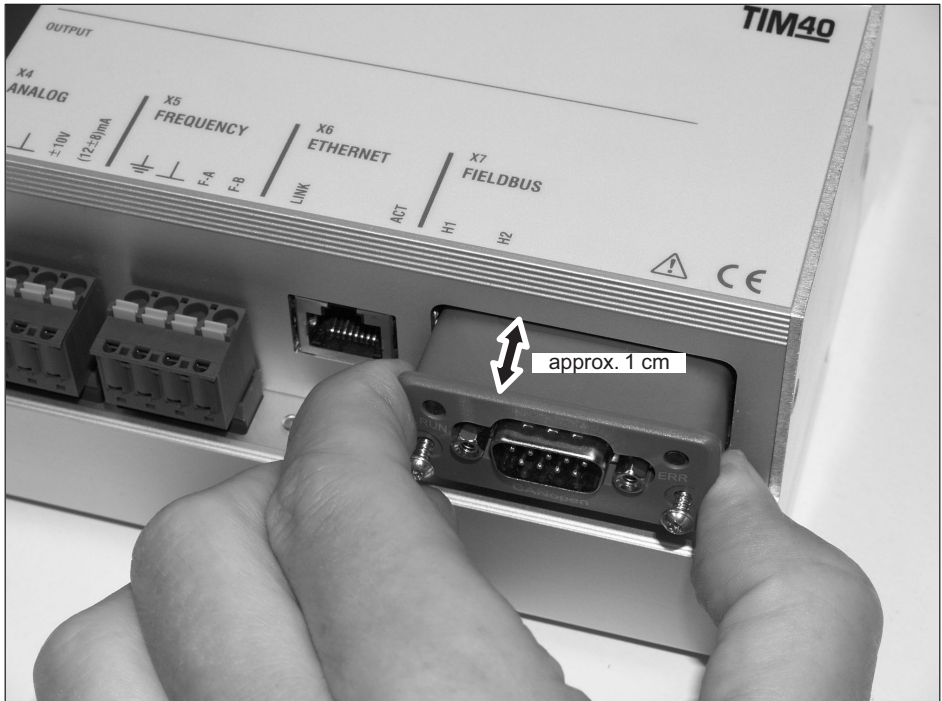

Fig. 8.3 Mounting the module
- ▶ Push the module, with the flat side facing down, carefully into the housing. When the module protrudes approx. 1 cm from the housing, you will feel a resistance (see Fig. 8.3). The module will now be centered by the side grooves. Carefully push the module into the housing until it lies flush.